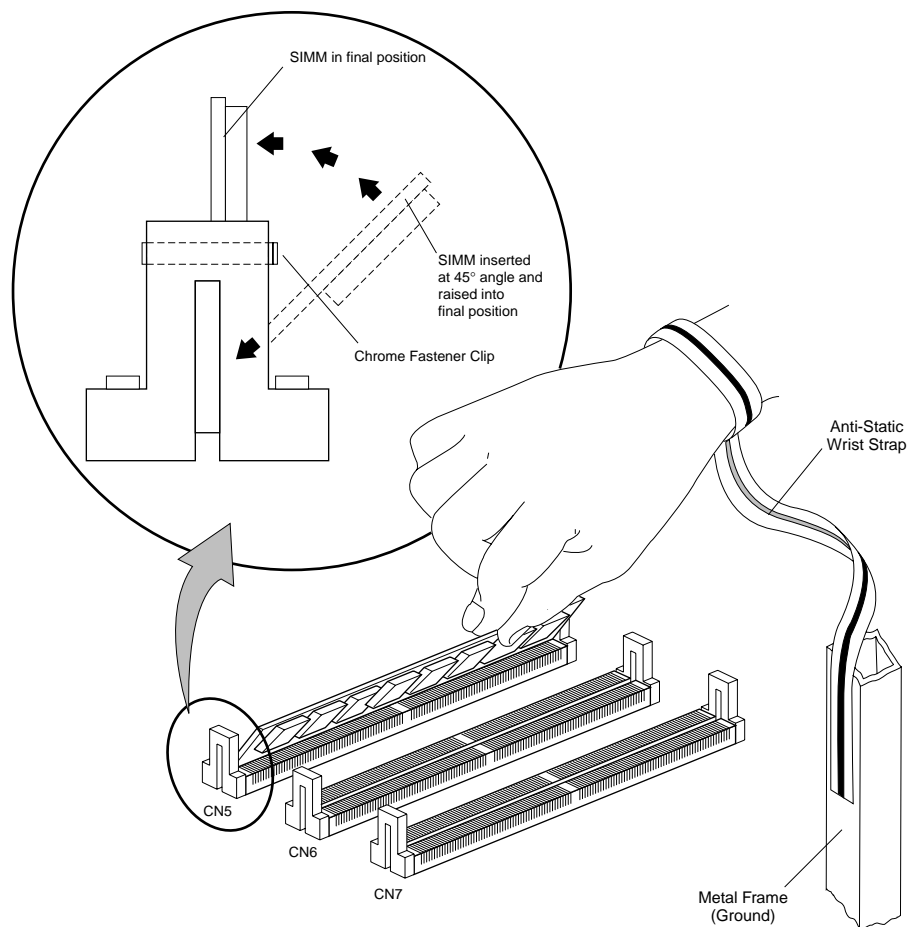

Figure 4-41 SIMM Installation
9. Refer to Figure 4-41, while following the next three steps:
- a) Slide the memory module into the free socket at a 45-degree angle, as shown in Figure 4-41, with the “notch” on the right side of the module.